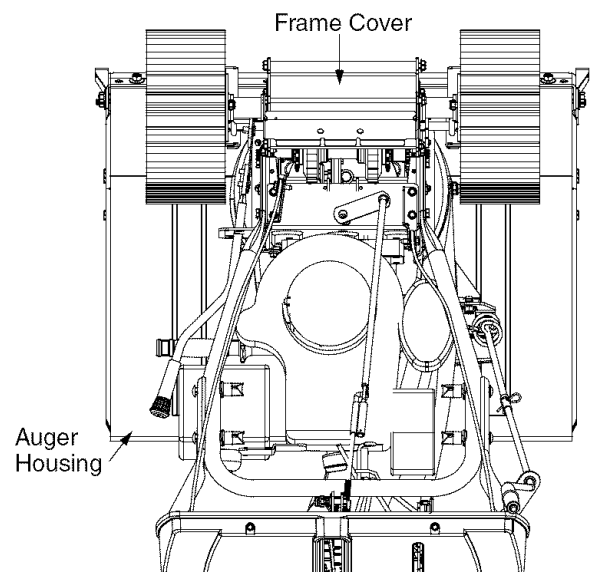

Figure 25
8. Remove the frame cover underneath the snow thrower by removing the four self-tapping screws. See Figure 25.